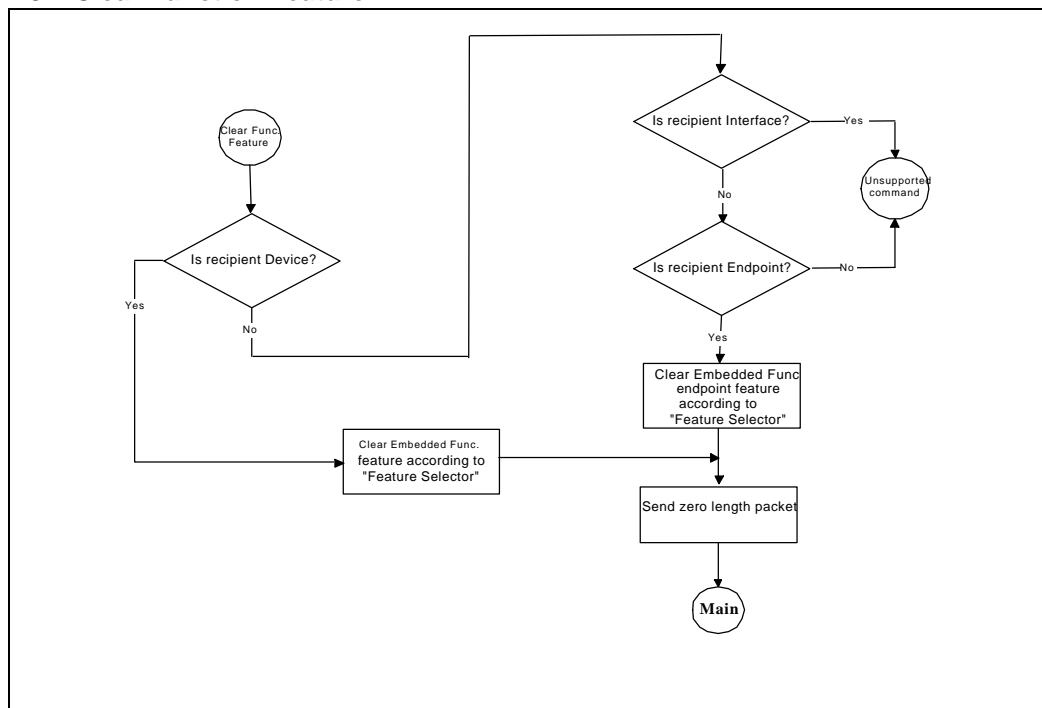

Figure 26: Embedded Function Clear Feature Standard Command
- Clear Function Feature (Figure 26)